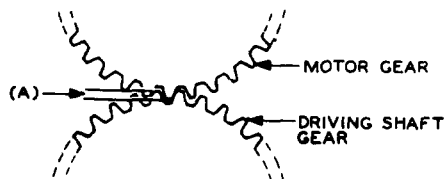

Fig. 3 - Engagement of Motor and Driving Shaft Gears
- (b) Fig. 3(A) - The teeth of the motor and driving shaft gears shall engage vertically for